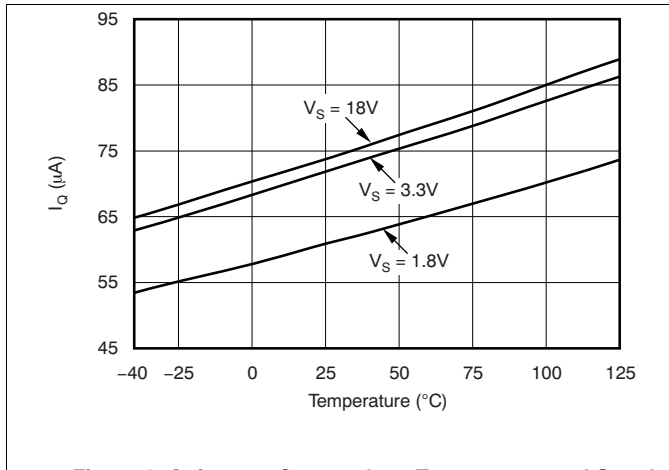

Figure 1. Quiescent Current Over Temperature and Supply
(1) 100% of production is tested at $T_A = +85^\circ C$. Specifications over temperature range are ensured by design.
(2) Shaded cells indicate characteristic performance difference.
(3) See Figure 1 for typical quiescent current.
(4) The TMP300 is functional over this range and no indication of performance is implied.